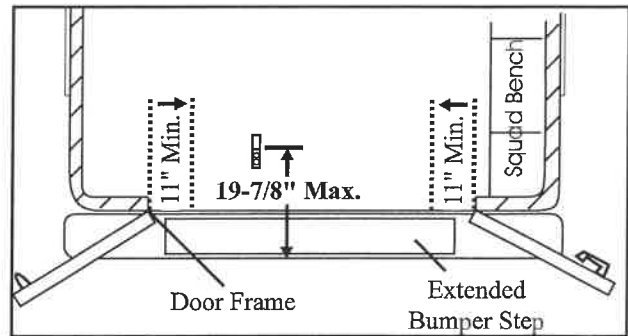

Figure 4 - Safety Hook Placement
- Position the safety hook at least 11 inches (279 mm) from both sides of the door frame (Figure 4) so the cot's safety bar will engage the hook when the cot is loaded or unloaded.